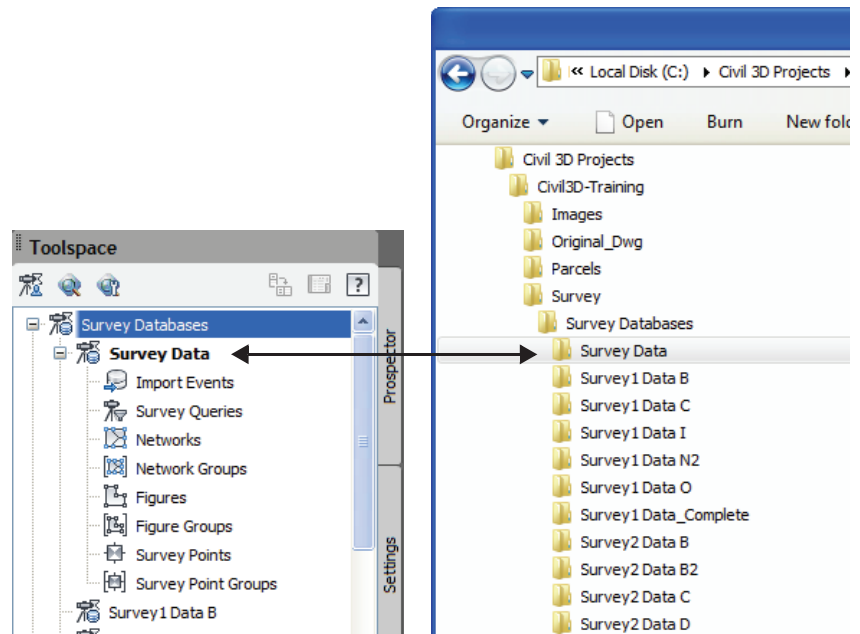

Figure 2–9
14. To edit the Survey Database settings, select **Survey Data**, right-click, and select **Edit survey database settings...**, as shown in Figure 2–10.